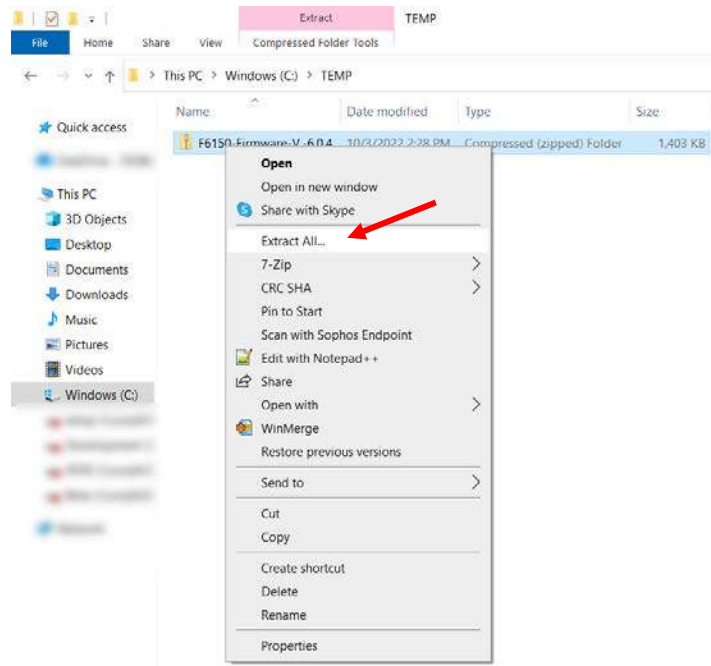

Figure 2. Extract (unzip) the downloaded file
- 12) Open a Windows Explorer window and navigate to the downloaded **.zip** file (see Figure 2)